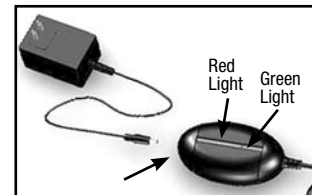

FIGURE H1
STEP 1: Connect the Plug Adapter to the Recharger input socket [Fig. H1]. Plug the Adapter into the AC power outlet. The red indicator light will flash three (3) times.